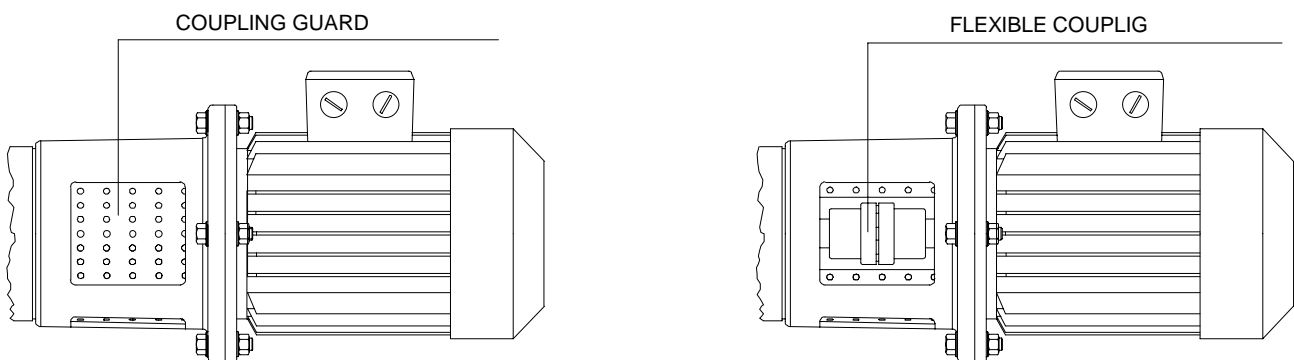

Fig. 7 - CHECKING ALIGNMENT ON MONOBLOCK DESIGN
- 3 - Applying slight hand pressure to the coupling guard, rotate it so that one opening of the lantern is accessible (see fig. 7).